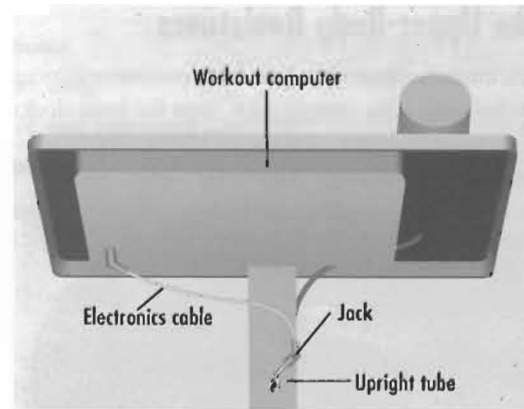

Figure 12
8. Locate the jack on the forward side of the upright tube (near the top). Plug the other end of the electronics cable into this jack (Figure 12).